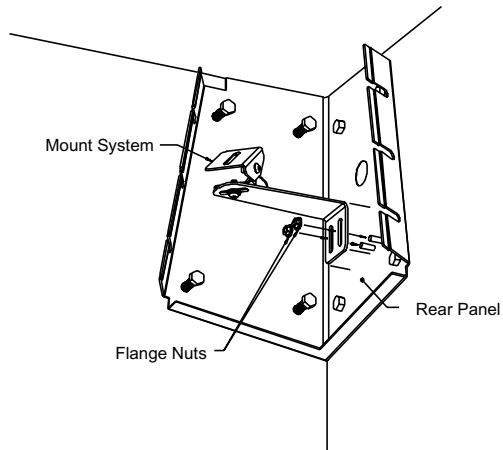

Figure 9: Securing the Mount System
1. Reattach the camera mounting system to the rear panel using two 6 mm flange nuts. **See Figure 9.**